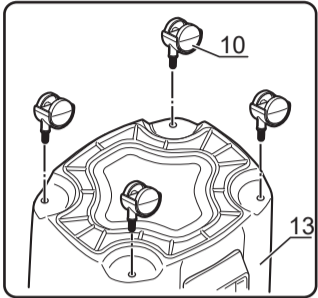

fig.3
- Turn the container upside down and insert the castors(10). Ensuring they are mounted correctly pushed all the way in. (fig.3)